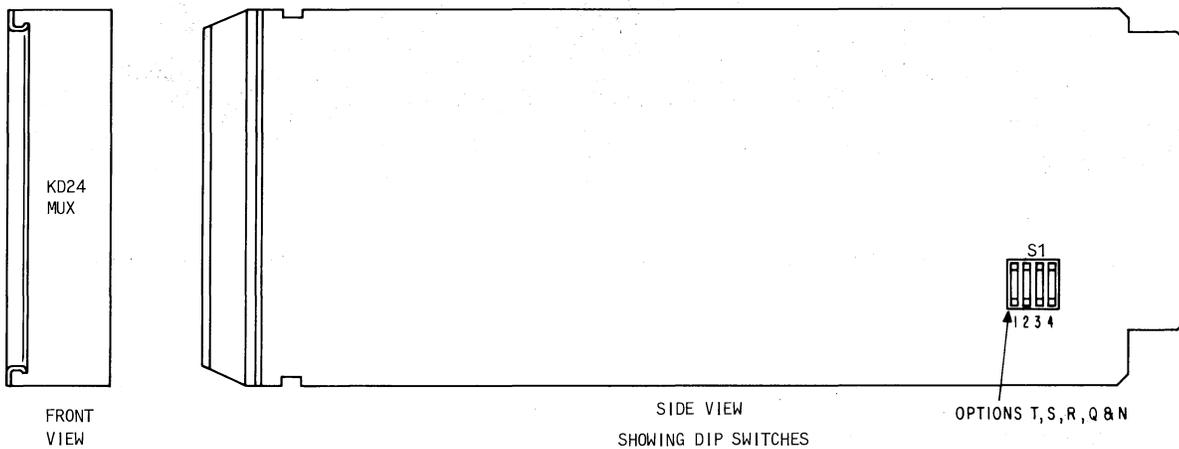

Fig. 6—Multiplexer CP KD24
- Multiplexer (MUX) CP KD24 (Fig. 6)—One required per DSU.